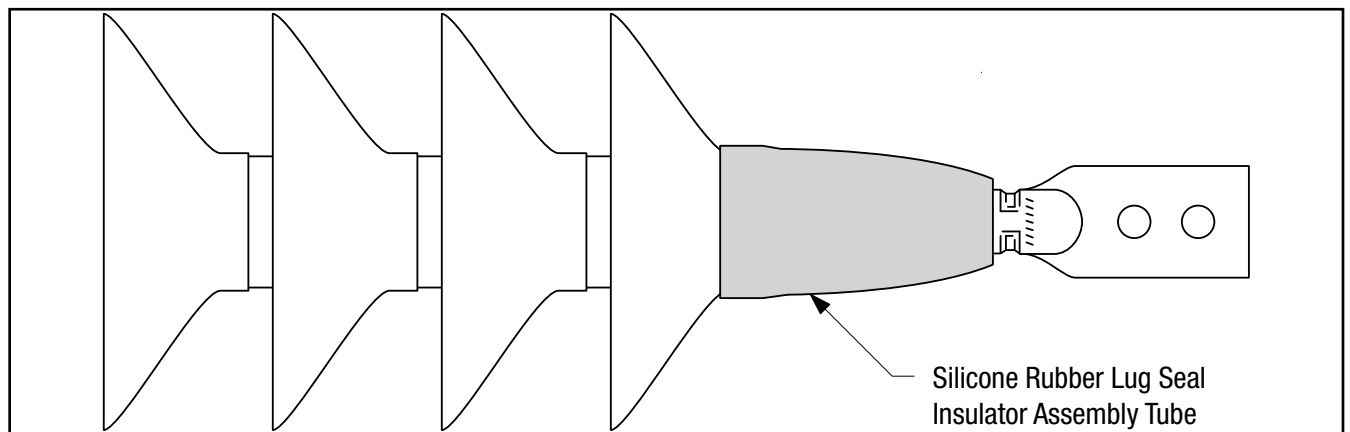

Figure 18
- 6.2 Figure 18 illustrates the appearance following installation of the Cold Shrink Silicone Rubber Lug Seal Insulator Assembly tube.